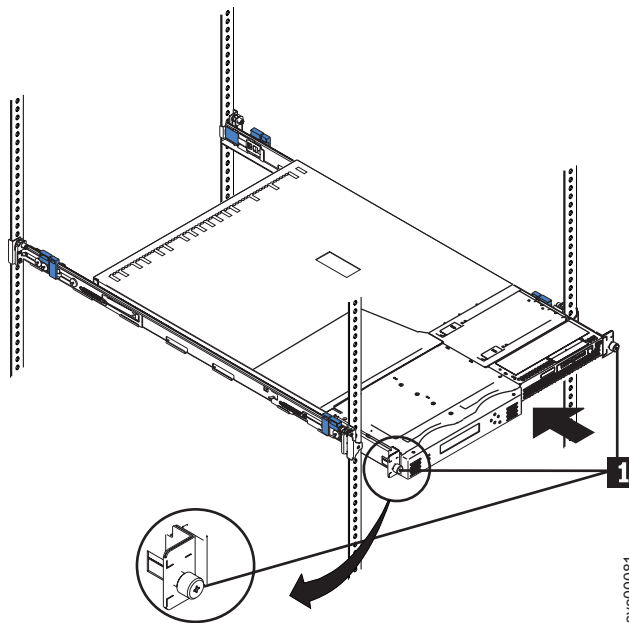

Figure 111. Sliding the SAN Volume Controller 2145-8F4 into the rack
2. Latch the two latches on the front of the rack to attach the SAN Volume Controller node to the rack. (**1** in Figure 111 on page 446).
Note: The front of the rail assembly looks different from the front, as you can see in Figure 111 on page 446.